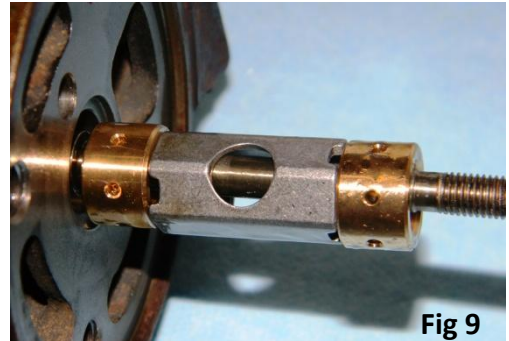

Fig 9
- 17) Slide a journal bushing onto the shaft, then the spacer, then the other bushing. Coat these and the shaft with clean motor oil. Then align them into the cartridge bore. (Fig 9)
- 18) Keeping a hold of the shaft to keep it seated in the cartridge, install the cartridge into the turbine housing. Make sure it is installed straight into the housing and the turbine wheel is not binding. Install the (4) new bolts using medium or high strength Loctite®. Tighten the bolts to 30 ft-lbs. Make sure the shaft spins freely.